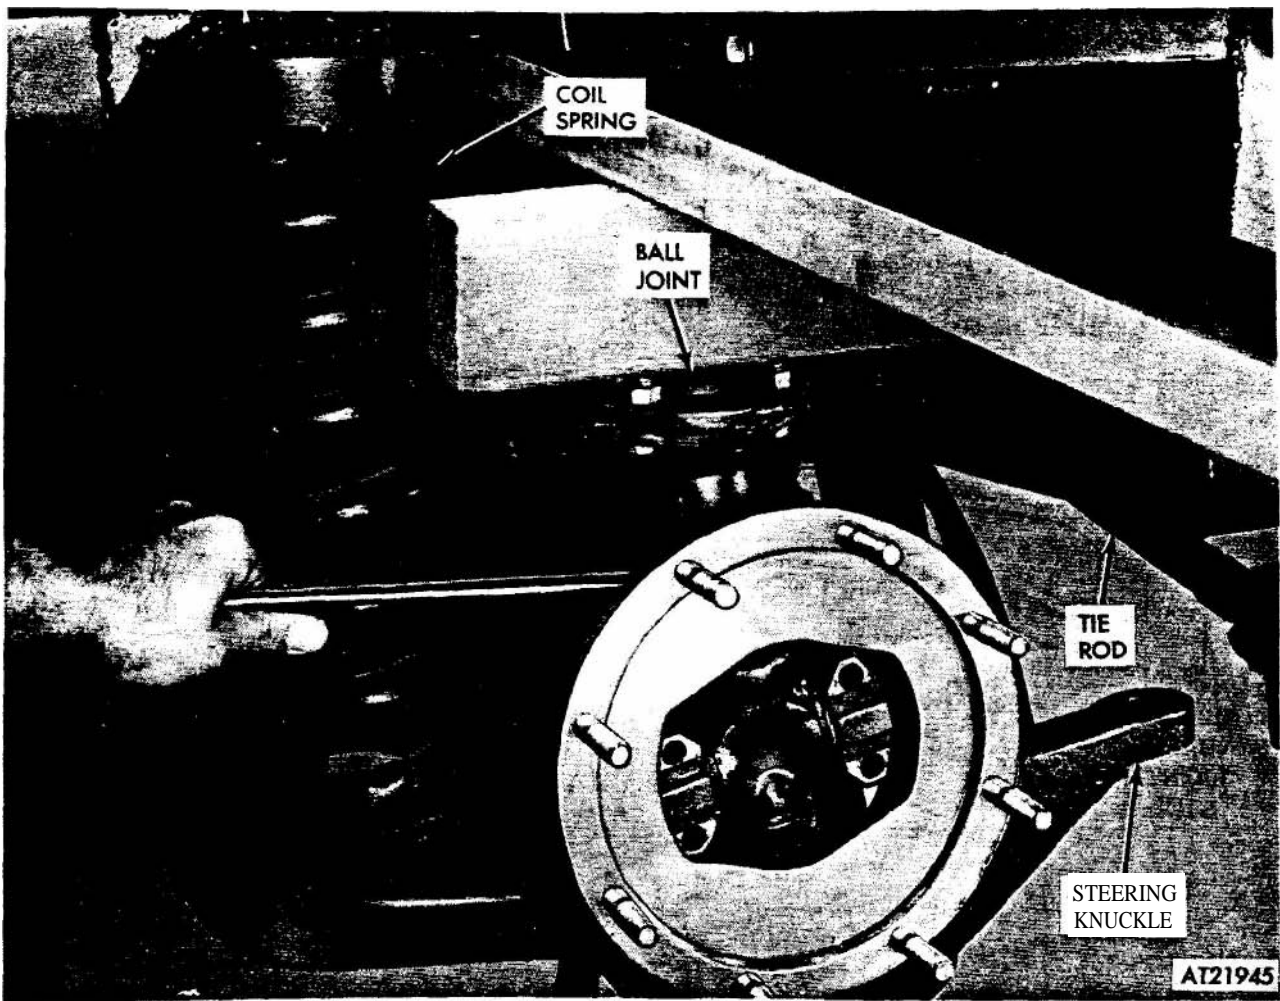

Figure 2-292. Steering knuckle installation.
(1) Position steering knuckle to upper ball joint stud and secure with nut and cotter pin (fig 2-292).
(2) Install coil spring, positioning spring into upper suspension arm and prying spring into its seat on the lower suspension arm.
(3) Position lower ball joint stud to steering knuckle and secure with nut and cotter pin.
(4) Position lower end of shock to lower arm assembly and secure with stud, two washers, and two nuts. Torque nuts to 105-145 lbs-ft.
(5) Position tie rod end and seal to steering knuckle and secure with nut and cotter pin.
(6) Position brake assembly spindle to steering knuckle and secure using eight nuts (refer to para 2-162).
(7) Connect hydraulic and air hoses to brake assembly spindle and bleed brakes (refer to para 2-161).